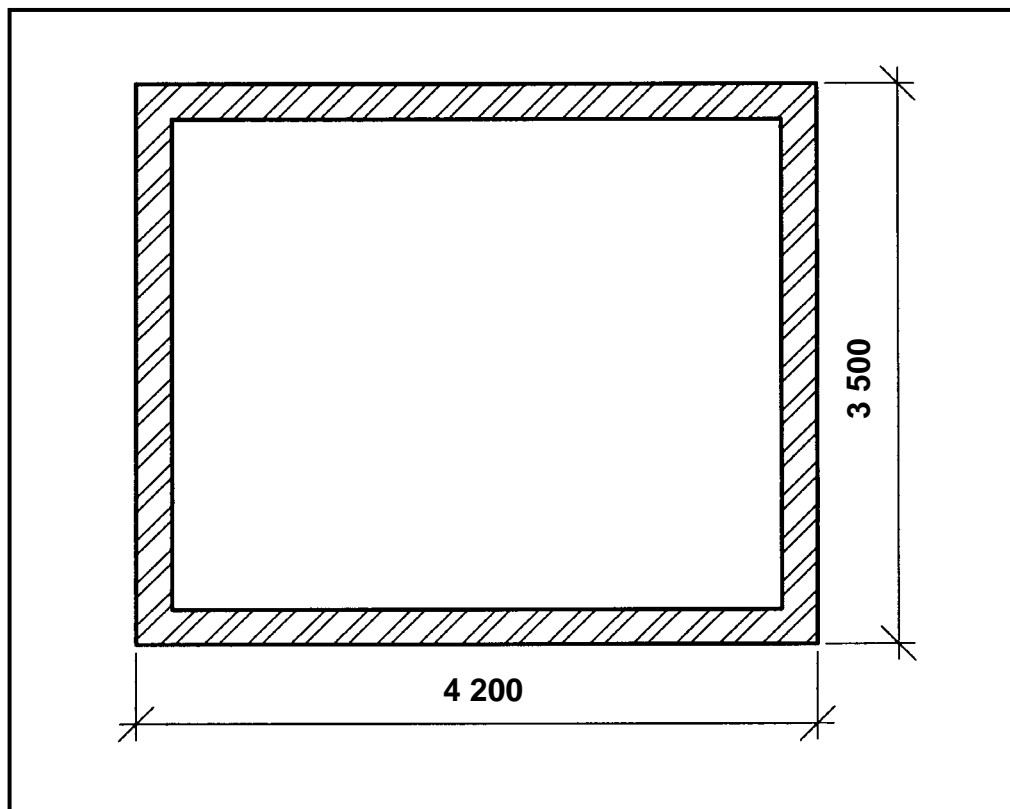

FIGURE 4.7
4.7 You are a quantity surveyor and are expected to calculate the quantity of materials required to erect the ceiling for the building illustrated in FIGURE 4.7. The ceiling battens are spaced maximum 450 mm apart. Use ANSWER SHEET 4.7 and calculate the following quantities: